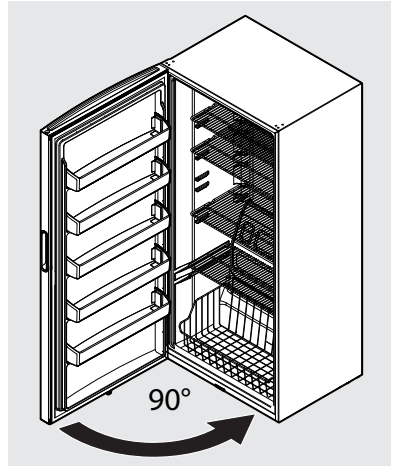

Figure 7
- Slide the door onto the bottom hinge pin at 90° to the freezer cabinet and close the door (see Figure 7).